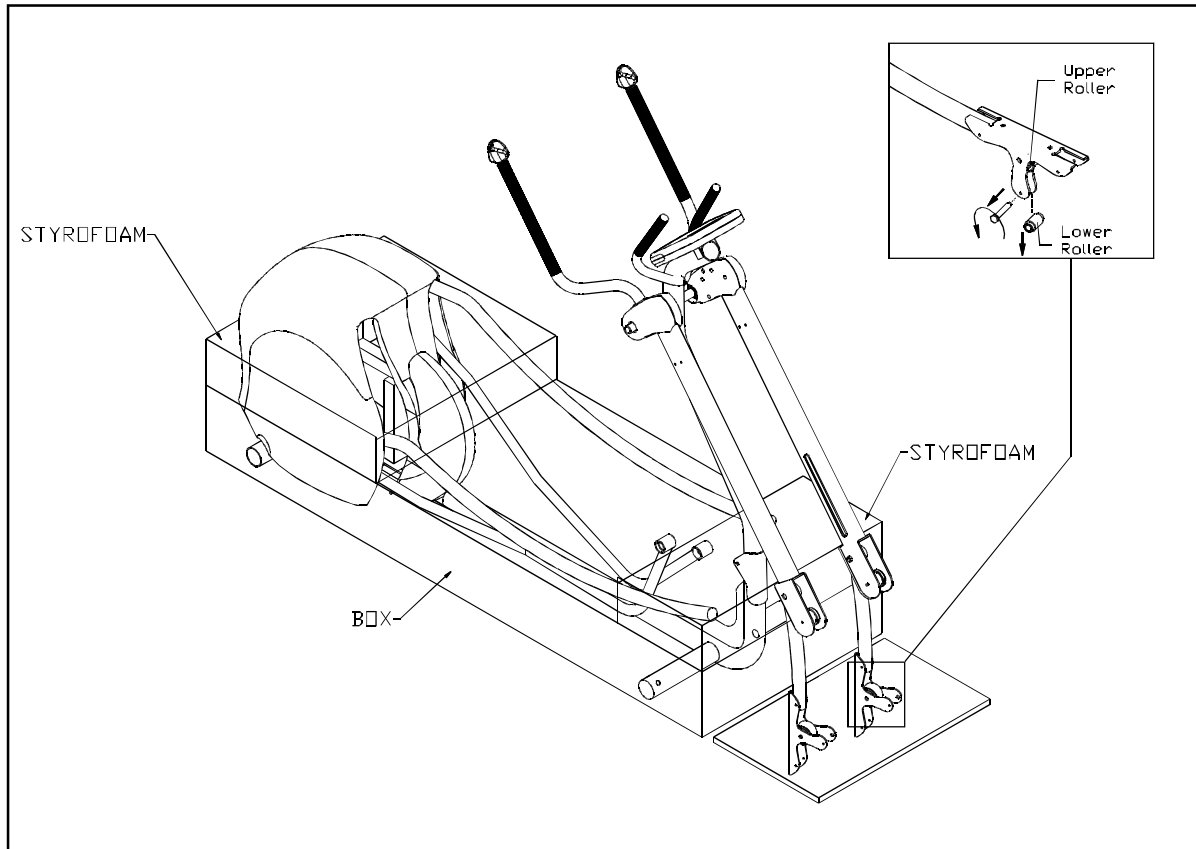

Fig.2
3. Remove the lower roller and shaft as shown in Fig. 2.